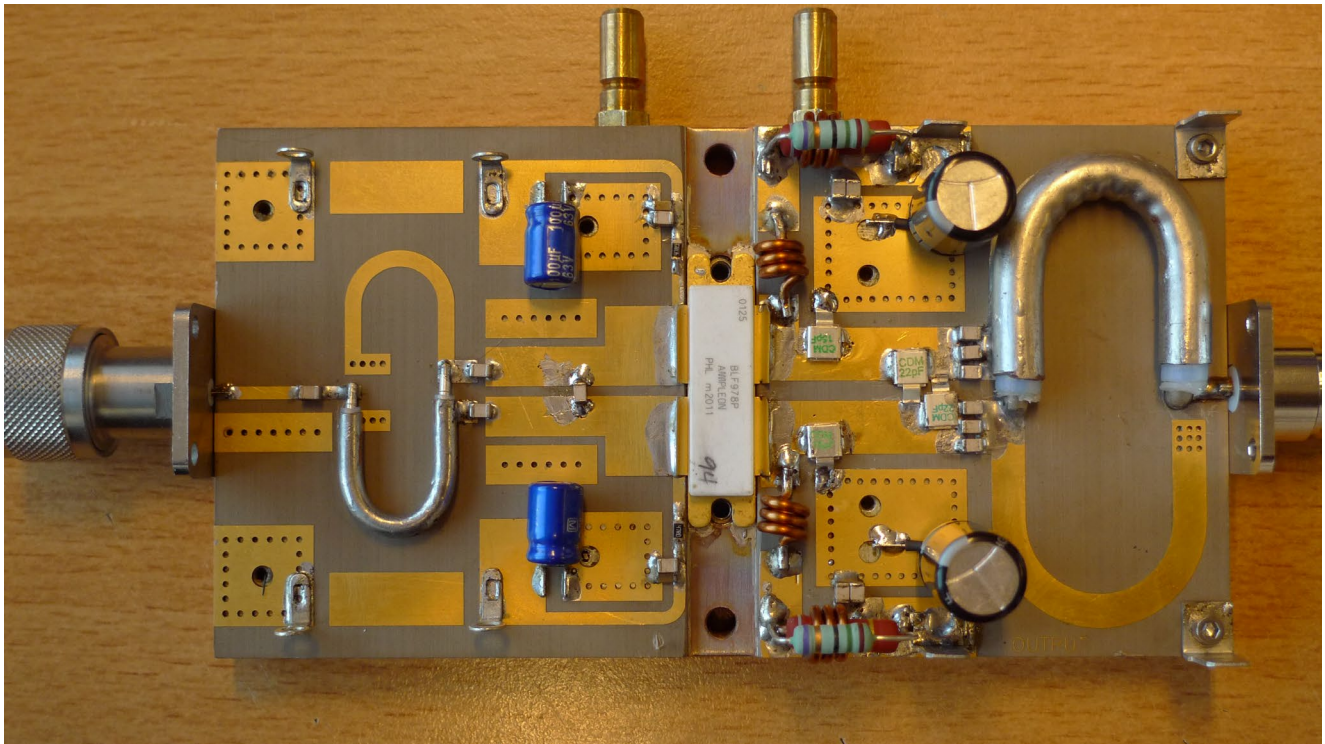

Figure 4 Picture Top View Demo Board
- Figure 4 PictureTop View Demo Board 8